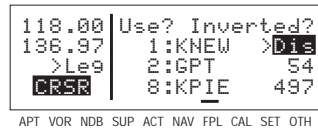

Figure 4-102
1. Turn on the cursor (**CRSR**); it will come up over the cyclic field, which in this case is displaying distance (**Dis**) in nautical miles (figure 4-102).